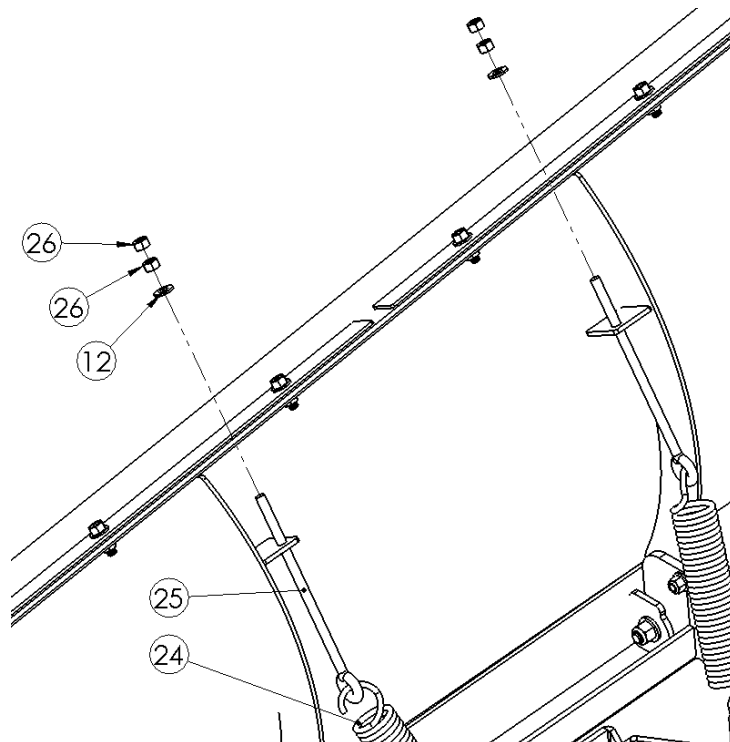

Figure 14
10) Attach the top end of the 10" Spring to the 3/8" Eye Bolt and then insert the threads of the 3/8" Eye Bolt through the mount plate welded to the Plow Blade. Secure the Eye Bolts using a 3/8" Flat Washer and two 3/8" Hex Nuts on each Eye Bolt. Alternate tightening the first 3/8" Hex Nut until the 10" Springs are taught. Tighten the second 3/8" Hex Nut to the First to keep them from spinning backward. See Figure 14.